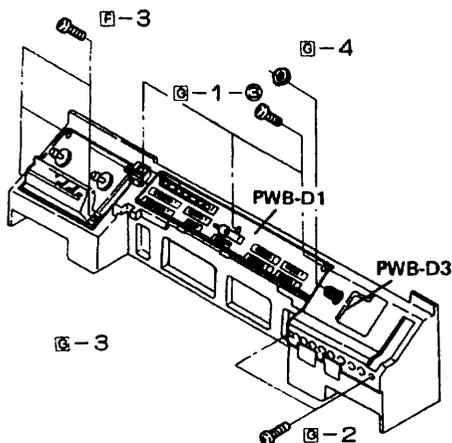
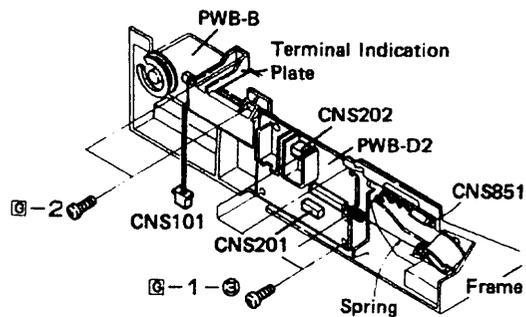

Figure 5-5
Figure 6-1
2. Pull out three sockets (CNS201, CNS202, CNS851) shown in Fig. 6-1.
3. Remove four screws at the tape mechanism and a counter belt – shown in Fig. 5-5 and a record/playback change-over spring – shown in Fig. 6-1. Then take the tape mechanism off.
- ③ Detach a dial string, and remove five screws at the PWB-D2 shown in Fig. 6-1 and four screws at the PWB-D1 shown in Fig. 5-5. Take both P.W.B. off.
- ① Detach a dial string, remove one socket (CNS101) and two screws at the terminal indication plate shown in Fig. 6-1, and also two screws at the tuner P.W.B. shown in Fig. 5-5, and take the P.W.B. off.
- ① Remove a nut at the volume P.W.B. shown in Fig. 5-5, and take the P.W.B. off.